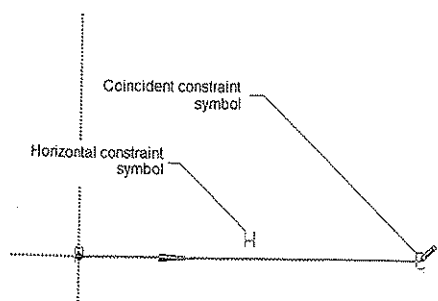
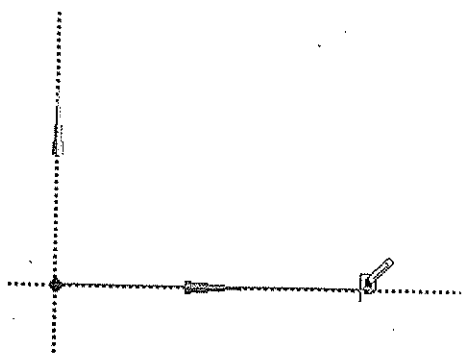

Figure 3-20 Specifying the end point of the line
Figure 3-21 Specifying the startpoint of line 2
8. Move the cursor toward right to some distance and click to specify the end point of line when the symbol of Horizontal constraint (H) is displayed, as shown in Figure 3-20. Line 1 is created and its blue color indicates that the line is fully constrained, refer to Figure 3-21.
9. Next, move the cursor close to the end point of line created in the last step; the symbol of Coincident Point constraint (P) is displayed. Click to specify the start point of the second line, refer to Figure 3-21.
3. Select lines 1, 3, 5, 7, 9, and 11 one by one to make them horizontal, if not already horizontal, refer to Figure 3-20.